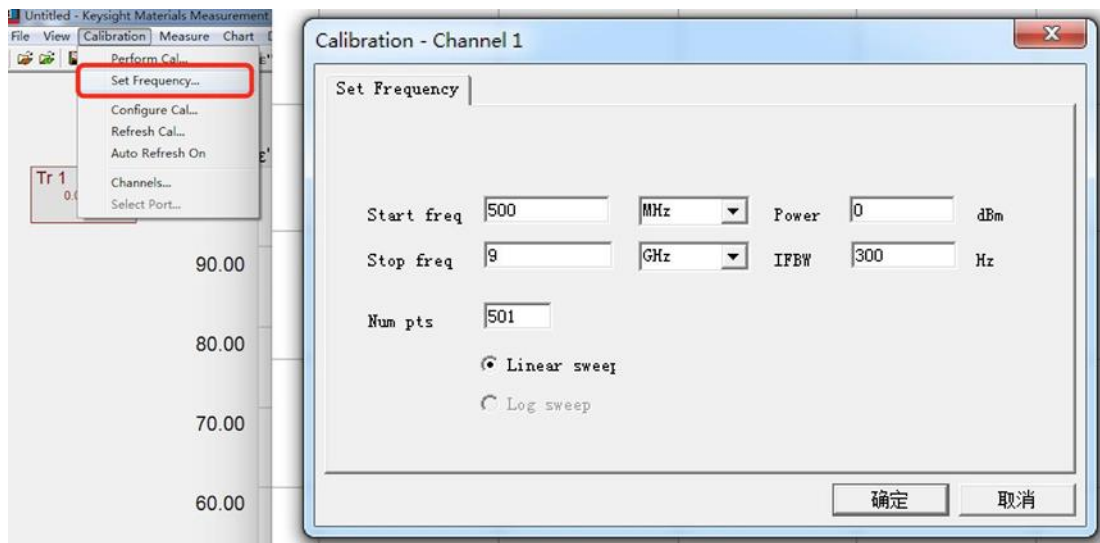

Figure 10. Calibration parameter settings
- (3) As shown in Figure 10, select **【Calibration】** -> **【Set Frequency】** to set the start stop frequency, sampling points, power and IF bandwidth. The smaller the IF bandwidth, the less noise introduced, then the higher the measurement accuracy. The more the number of points, the longer the test time and the higher the measurement accuracy.